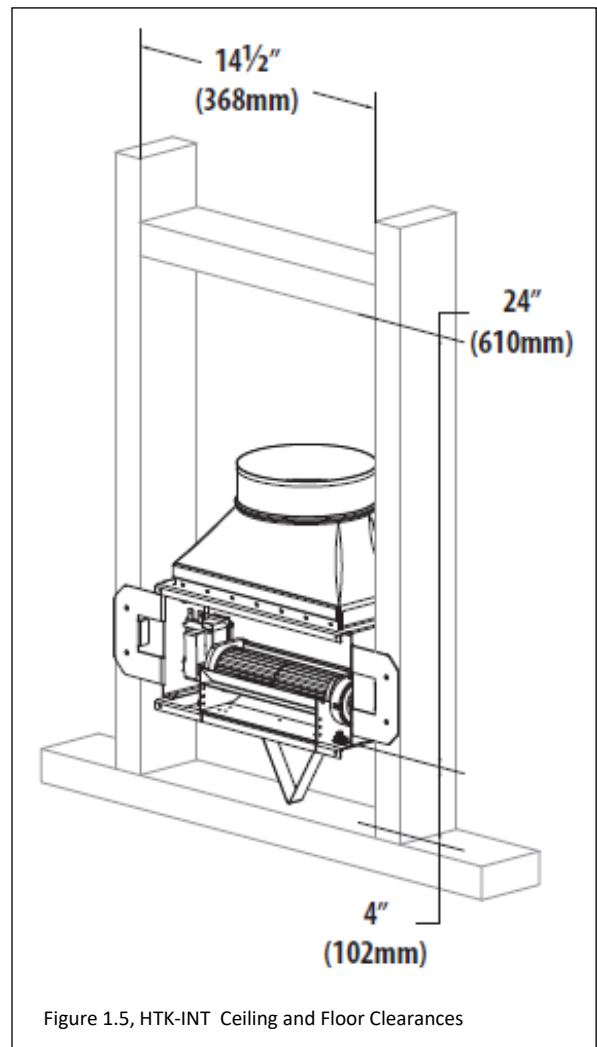

Figure 1.5, HTK-INT Ceiling and Floor Clearances
- **Figure 1.5** shows the 4" (102mm) clearance between the air discharge box and the framing of the floor or the ceiling.